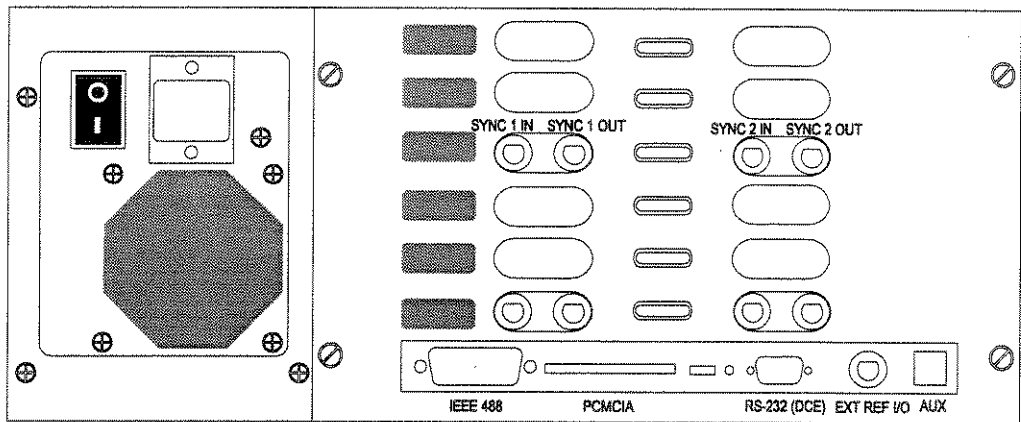

Figure 3-2. Rear Panel of the TAS 4500
Figure 3-2 shows the rear panel of a standard 4500.
The SYNC 1(2) input(output) connectors shown in Figure 3-2 are BNC type connectors. The TTL digital signal on this connector is used to provide synchronization of the digital signal processing between two 4500 units that are configured in a 4 branch diversity test setup.